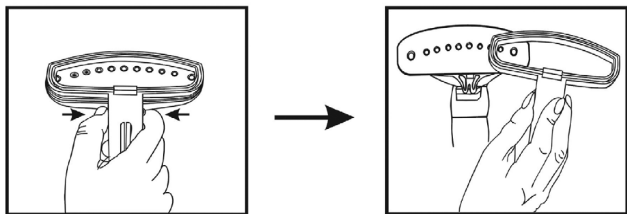

fig. 5
3. Unlock the pants press by pushing buttons on both sides of pants press until they are released, and then remove the pants press from the steam nozzle. See fig 5.